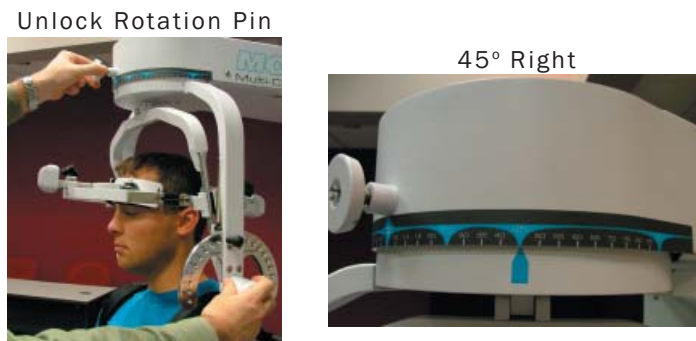

Figure 6-70. Halo Rotation of 45°
Step 12. While holding onto the side of the halo, unlock the rotation pin, which is located at the top middle of the halo. If you're testing the patient's left side, rotate the halo to 45 degrees right rotation and then lock the rotation pin. Rotate the halo to 45 degrees left rotation to test the patient's right side (Figure 6-70).